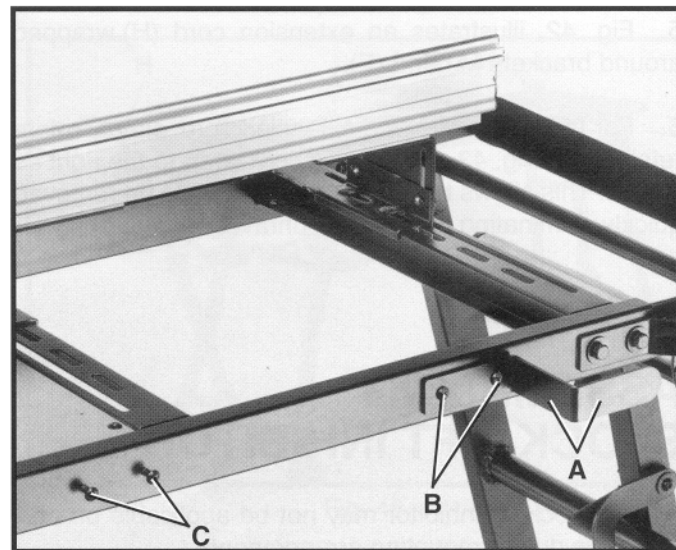
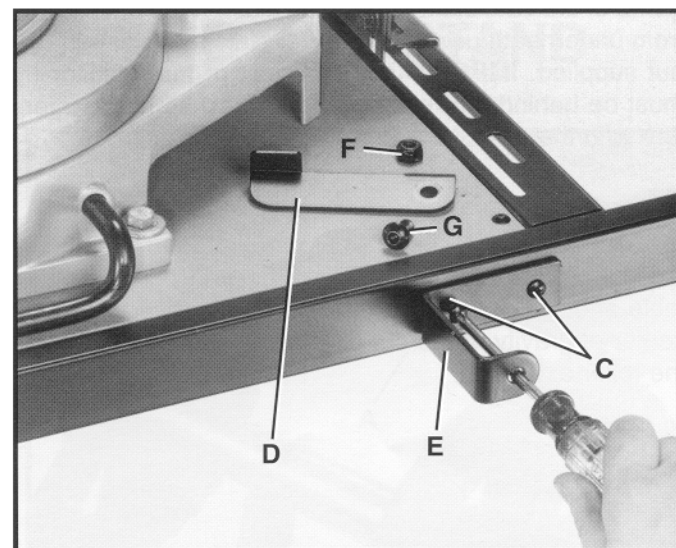

Fig. 39
Fig. 40
1. Assemble right cord wrap bracket (A) Fig. 39, to the rear of saw stand as shown using two 16mm long self-tapping screws (B).
2. **NOTE:** Before assembling left cord wrap bracket to the rear of the saw stand and to make assembly easier, remove retainer (D) Fig. 40, from left cord bracket (E) by loosening and removing lock nut (F) and button head screw (G). Then start the remaining two 16mm long self-tapping screws (C) Fig. 39, into the two holes at the back of the saw stand to create a threaded hole. Back the two screws (C) Fig. 39, out of the holes and assemble the left cord bracket (E) Fig. 40, to the saw stand using the same two screws (C) as shown.
3. Reassemble retainer (D) Fig. 40, to left cord wrap bracket using button head screw (G) and locknut (F).